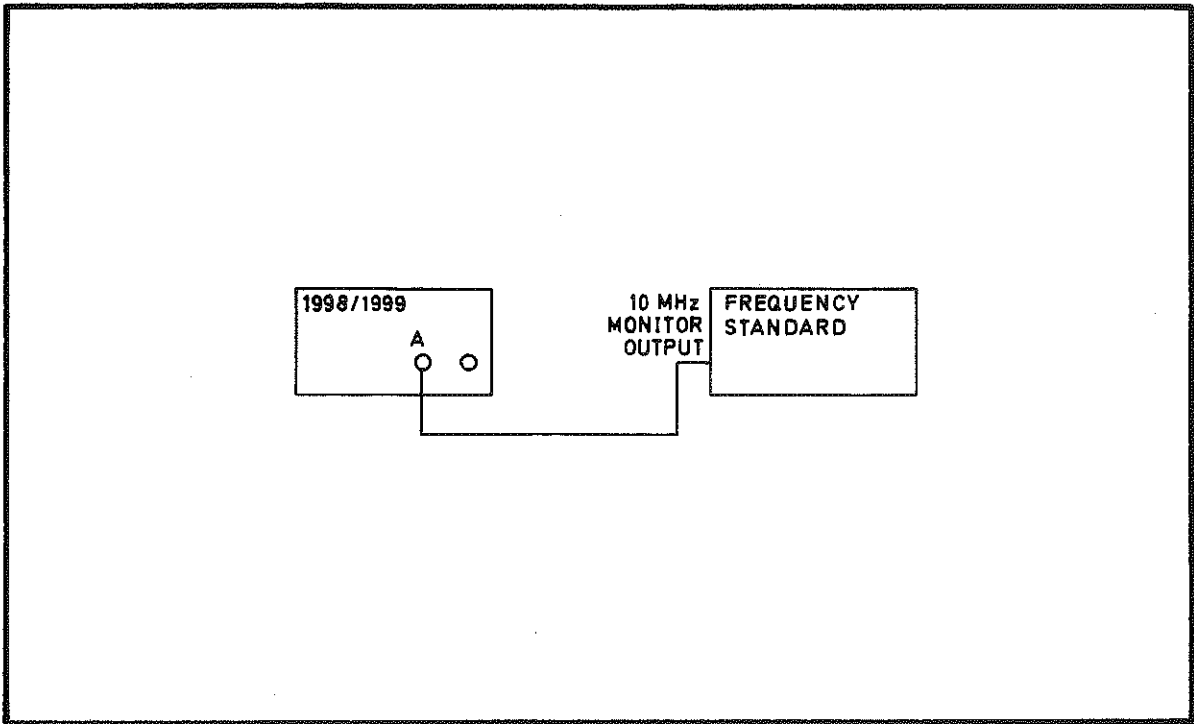

Fig 7.28 Connections for Internal Frequency Standard PVP
- 92 (1) Select **FREQ A** and 100 ms gate time. If the Option 04B (9423) frequency standard is fitted, press the **RESOLUTION** key to give 1 s gate time.
- (2) Connect the 10 MHz STD OUTPUT socket to the A channel input, using the coaxial lead.
- (3) Press **NULL** .
- (4) Disconnect the signal from the A channel input.
- (5) Connect the frequency standard as shown in Fig 7.28
- (6) Verify that the value displayed is within the limits shown in Table 7.10.
- (7) Press **NULL** . Disconnect the test equipment.